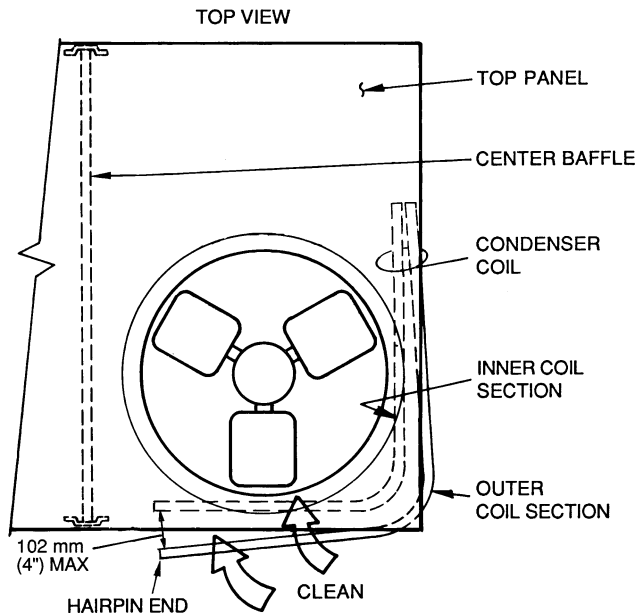

Fig. 44 — Separating Coil Sections
5. Remove fastener holding coil sections together at return end of condenser coil. Carefully separate the outer coil section 3 to 4 in. from the inner coil section. See Fig. 44.